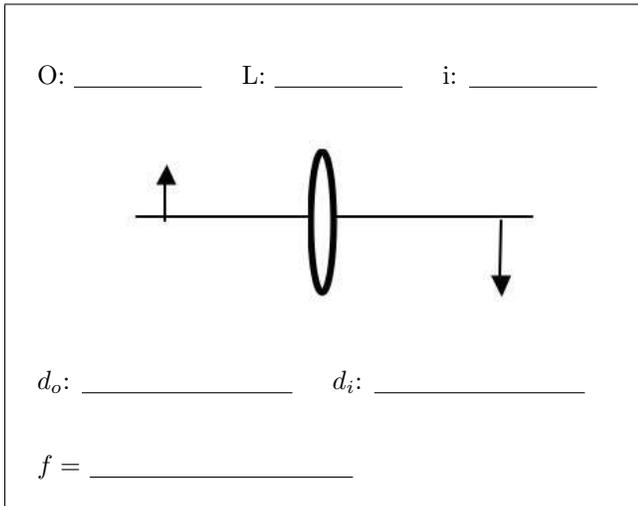

Figure 22.7: Sketch required for all arrangements in Part 1 and Part 3.
3. Sketch the diagram shown in Fig. 22.7. Record the position of each device: O , L , i . Positions are measured directly from the optics bench; a line is scribed on each holder for accuracy.
Use only the converging lens to investigate lateral magnification. Remember to sketch all arrangements as in Fig. 22.7.